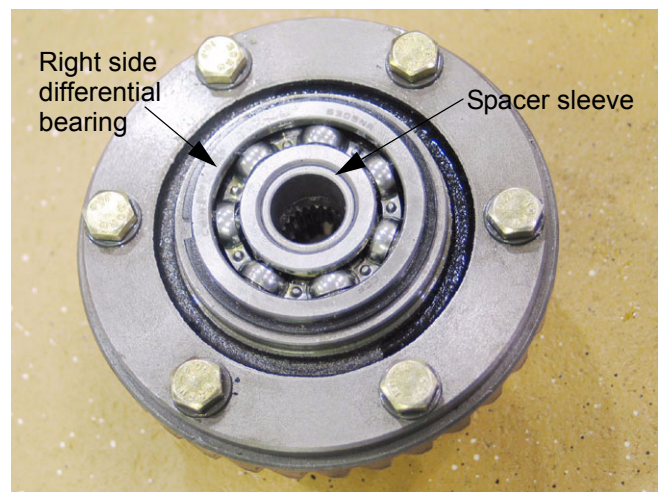

Figure 9.23
- 9.23. Remove the right side differential bearing and spacer sleeve from the differential. See Figure 9.23.